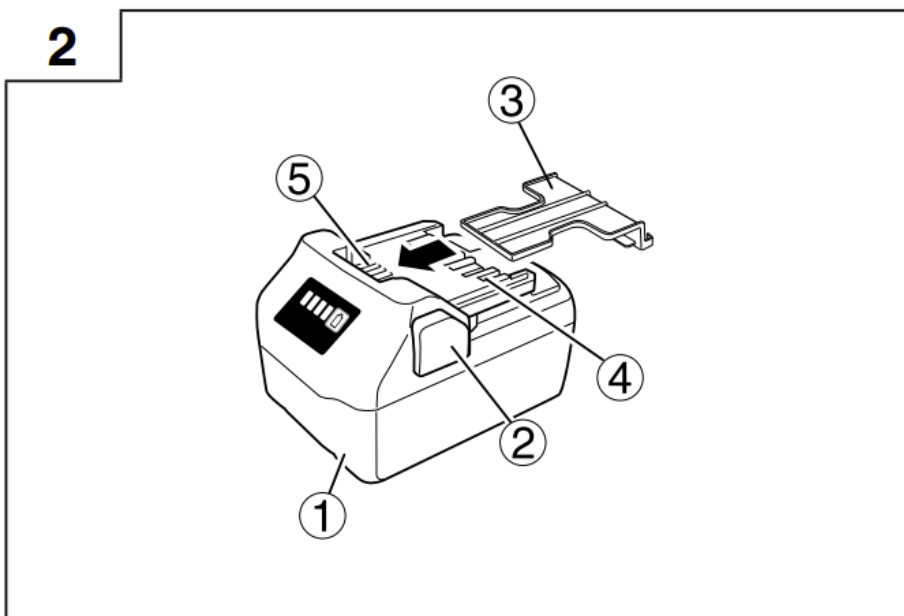

Fig. 2
- Either install the battery in the power tool or store by securely pressing into the battery cover until the ventilation holes are concealed to prevent shortcircuits (See Fig. 2).